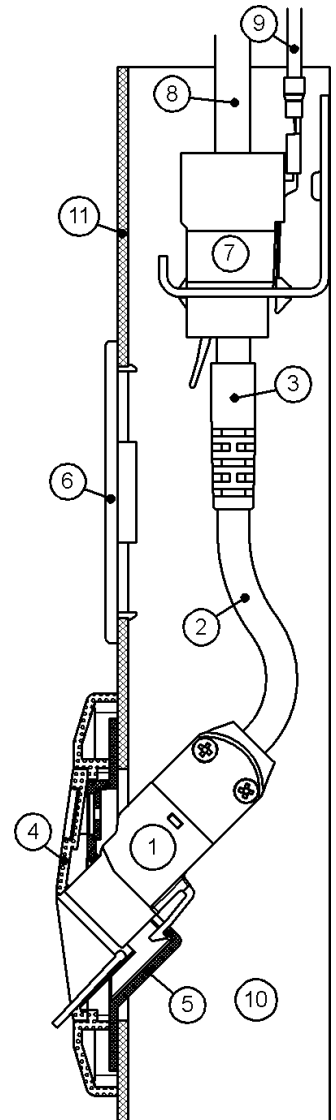
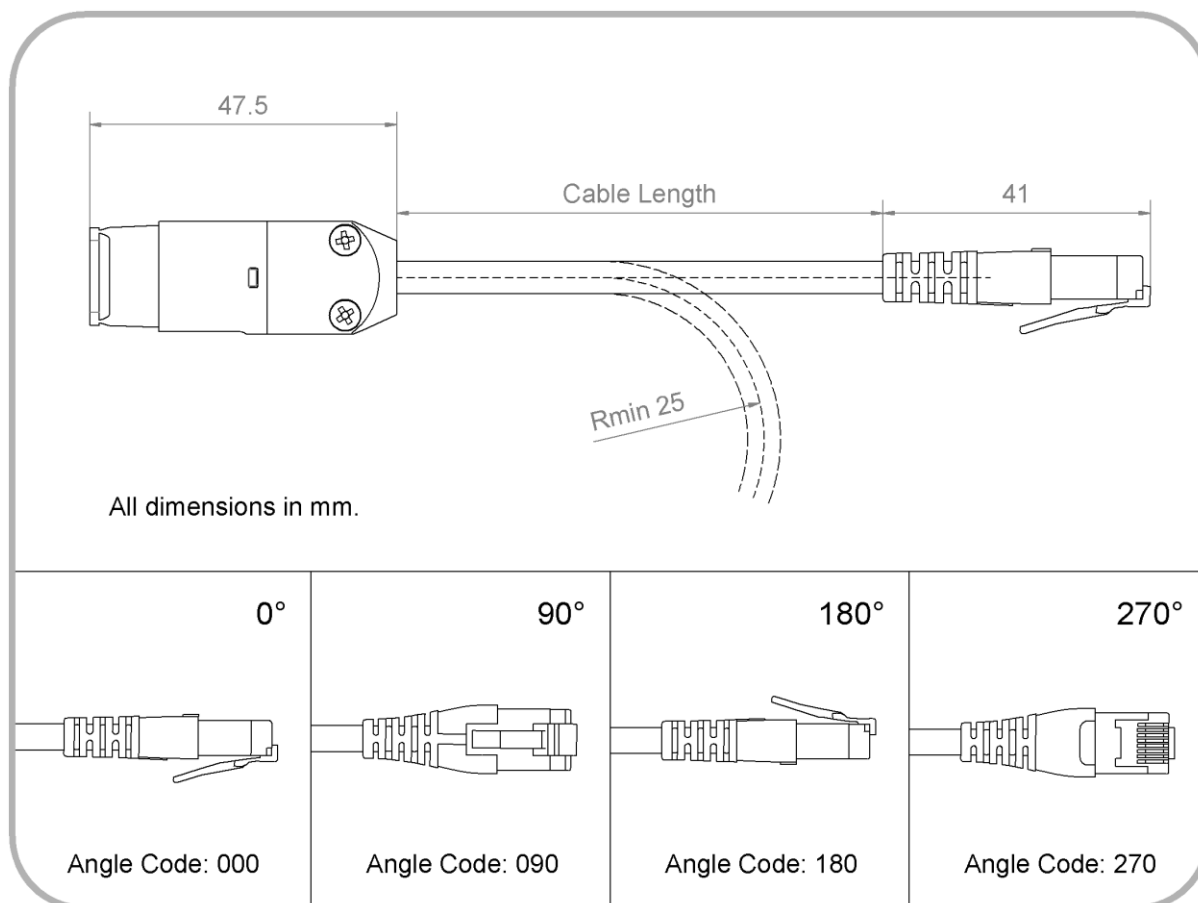
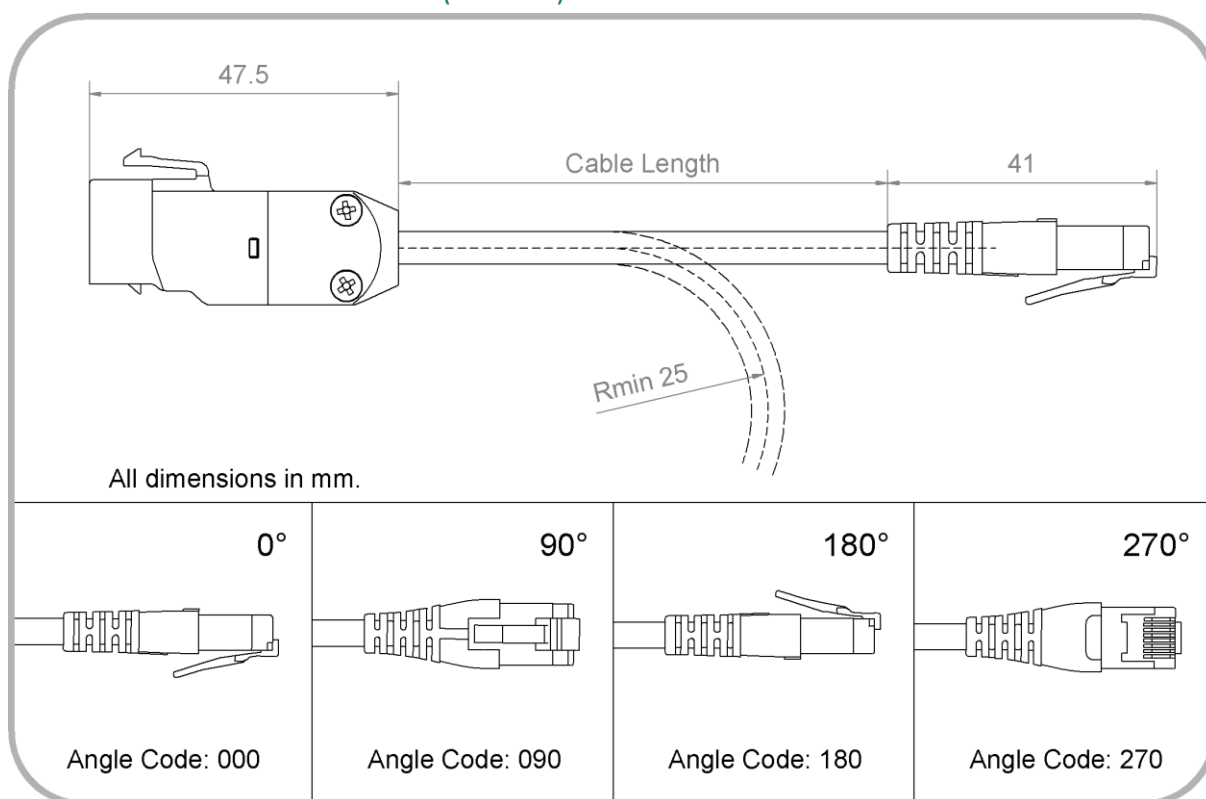

Figure 6
Figure 8. Technical drawing for EN-65S, showing definition of cable length, as well as angle codes.
Figure 9. Technical drawing for EN-65K, showing definition of cable length, as well as angle codes.
Figure 6 shows a typical assembly within a cable duct ⑩, with cover ⑪. The Network Isolator EN-65K ① is shown installed in a Keystone-compatible wall outlet, which usually consists of a support frame ⑤ and a plastic front panel ④. The RJ45 plug ③ of the Network Isolator is to be inserted into a RJ45 jack module termination ⑦ at the end of the permanently installed data cable ⑧. When retrofitting the Network Isolator EN-65K ① into network channels, the existing RJ45 jack module from the wall outlet can be shifted back within the cable duct ⑩, and used as the connection to the Network Isolator.
The transmission properties of permanent network installations fitted with EN-65 Network Isolators can be checked with cable certification devices which are suitable for testing electrically isolated cable sections. To be able to conduct such an inspection, the test equipment must be configured in an AC wire-map mode. The entire cable route, including the Network Isolator, can be tested to EIA/TIA-568 Cat.5e or ISO 11801 Class D. Testing of the cable shielding and the conductor resistance is not possible in this mode. If however, these tests are required, or if the quality of the cable route itself needs to be tested (without the Network Isolator), then testing can be performed by bypassing the Network Isolator, and connecting directly to the RJ45 socket ⑦, set back within the cable duct, as indicated in Figure 6.
The length of the flexible cable stub ② (see Figure 6 in section 0) of the EN-65 Network Isolator is available in selected lengths from 30 mm to 10 m (inclusive). Refer to Figure 8 and Figure 9, as well as the table in section 10.4. It is recommended that this length be kept to a minimum. When compared to a fixed installed cable, this flexible cable stub may be more susceptible to near end crosstalk (NEXT) and alien crosstalk (AXT). The flexible cable stub itself generates a small, but length-dependent amount of insertion loss (IL).
For flexible cable stub lengths between 30 mm and 500 mm (inclusive), the plug angle can be chosen, easing mechanical constraints in certain assembly configurations, and removing impermissible torsion strains from the cable assembly. Refer to Figure 8 and Figure 9. The manufacturing tolerance for the plug angle is $\pm 20^\circ$.
When placing orders for EN-65, please specify the exact Order Code (OC). The order number is a hyphenated concatenation of the Article Number (A10068 for EN-65K, or A10069 for EN-65S), the Length Code for the desired cable length (see section 10.4 above), and the Angle Code for the desired plug angle (see Figure 8 and Figure 9). For flexible cable stub lengths greater than 500 mm, the EN-65 will always be manufactured with a plug angle of 0°, and the Angle Code can be omitted for such orders.